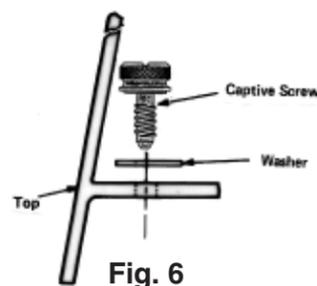

Fig. 6
5. Now reinstall the hard top. Align the rubber around the windshield as shown in figure 7 for a better seal before closing the draw latches. Now attach the captive screws and flat washers as shown in figure 6.